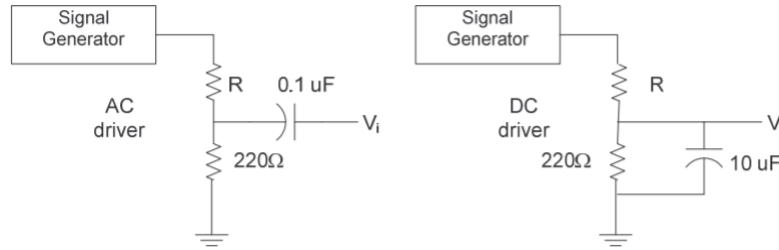

Figure 3-8 Amplifier Driver Circuit
- Build the DC driver circuits as shown in Figure 3-8. The value of resistor R in the voltage divider is selected to provide a DC drive voltage adjustable approximately from -100 mV to $+100\text{ mV}$. For the DC driver, the AC voltage is adjusted for minimum amplitude while the DC offset is enabled and adjusted to give the desired DC input.